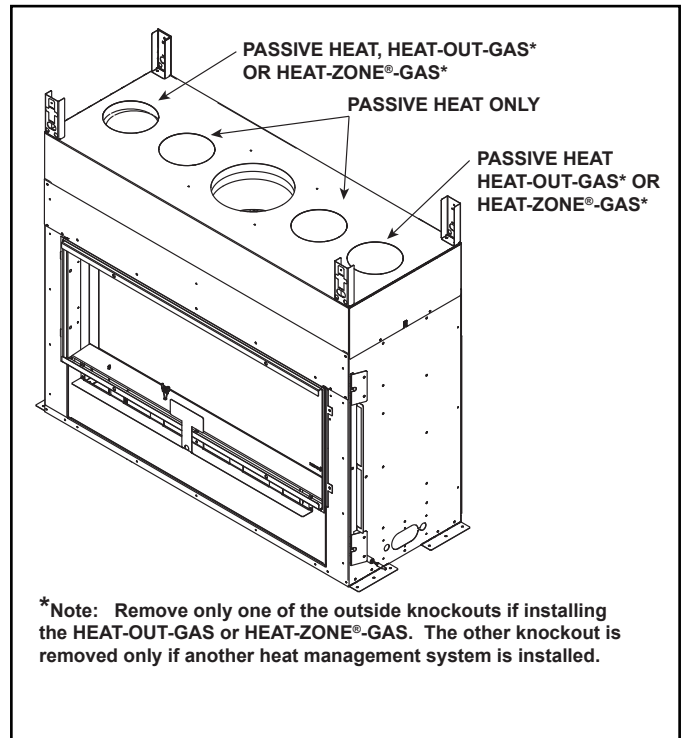

Figure 6.4
- Passive Heat may be used with HEAT-OUT-GAS or one HEAT-ZONE®-GAS. The dedicated knockouts, as shown in Figure 6.4, must be used only as indicated.